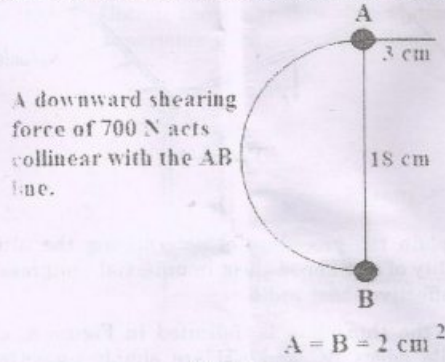

Figure 5
16. (a) (i) List the structural components of an aircraft wing. Write about the design considerations and structural analysis of an aircraft wing spar. (9)
- (ii) Differentiate between strength based and stiffness based design criteria. Discuss material requirements for aerospace components. (6)
- (b) The webs of the section given in Figure 5 are ineffective in bending. Obtain the resulting shear flow and plot the same. Next, explain the procedure of how the shear center position can be determined. (15)